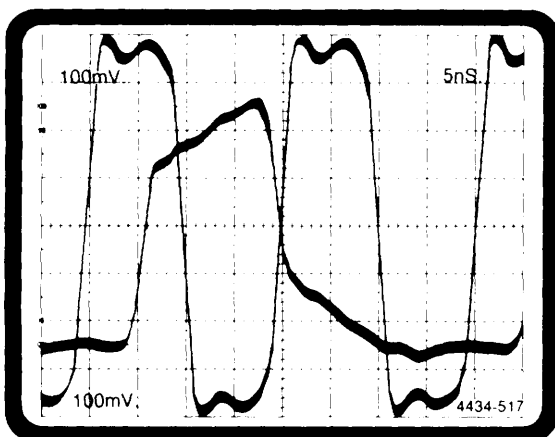

Figure 5-29. 318 Parallel data acquisition test waveform #1.
13. Adjust DD501 EVENTS LEVEL slowly until the channel 2 waveform's falling edge crosses the channel 1 waveform's rising edge at 0 V (mid-screen). See Figure 5-29 (14 ns setup, 0 ns hold).
26. Adjust the DD501 events level slowly until the channel 2 waveform's falling edge crosses the channel 1 waveform's rising edge at 0 V (mid-screen). See Figure 5-29 (14 ns setup, 0 ns hold).